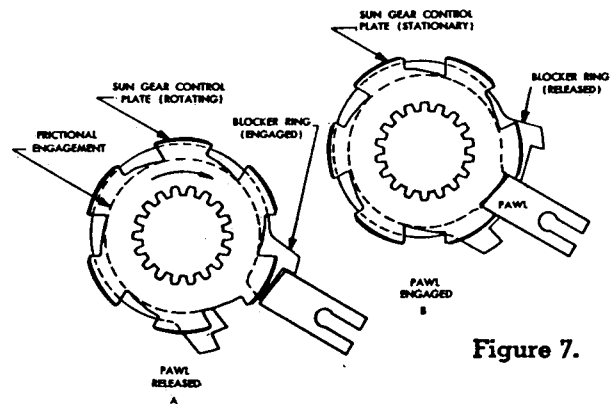

Figure 7.
movement (Fig. 7-a). When the car reaches a predetermined speed (the "cut-in" speed, which varies between 20 and 32 mph, according to car make and model) the governor contacts close, acting through the overdrive electrical circuit to energize the solenoid. The latter sets up a spring pressure against the pawl, tending to push it into engagement. This movement is prevented by the blocker. However, the driver, either unconsciously, or consciously, and according to his own choice, may momentarily close the throttle, whereupon the roller clutch releases, and the engine slows down. At the same time, the sun gear slows down, more rapidly, so that the sun gear passes through the stand-still condition when the engine speed has fallen 30%, and then reverses its motion. Upon the instant of reversal, the blocker ring, moved by its frictional drive from the control plate hub, also rotates slightly in this direction and releases the pawl which snaps into the first notch of the backwardly-rotating control plate (Fig. 7-b). The extreme rapidity of this action insures that the control plate cannot rotate backward more than 1/3 turn at the most; usually, it will be less. This engagement, at nearly perfect synchronism, accounts for the smooth action of this control. Once engaged, under the conditions of normal driving, the overdrive is in action until the car speed falls to a value 3 or 4 mph lower than the cut-in speed, when the governor contacts open, releasing the solenoid, which withdraws the pawl (if throttle is closed), whereupon the condition of free-wheeling direct drive is resumed.
a. Occasionally, either in assembly at the factory, or in service operations in the field, the internal parts of the overdrive unit may have been rotated with the solenoid removed, and the pawl withdrawn from its normal location. This may cause the blocker ring to rotate, so that its two lugs are not located with respect to the pawl as shown in **Figs. 7 and 21**. In other words, the solid portion of the blocker ring may be in alignment with the pawl, which will prevent full engagement of the pawl with the sun gear control plate.
c. Rather than disassemble the entire overdrive unit, this condition may be corrected externally. With transmission in neutral, and the dash control pulled out, move car forward one full turn of the propeller shaft. Then, loosen the two solenoid capscrews as far as possible without removing, and pull solenoid out as far as it will go, and hold it there while the propeller shaft is turned forward about  $\frac{1}{8}$  turn. Then push solenoid in, and tighten capscrews. The reasons for this procedure are readily understood from a study of Fig. 7.